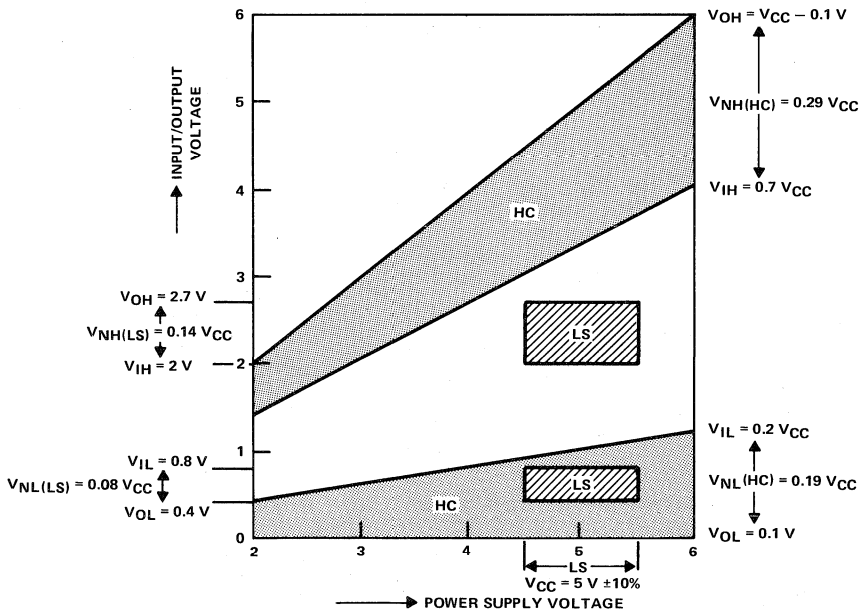

Figure 12. High-Speed CMOS and LS Noise Margins
5. Improved noise immunity over bipolar devices is due to the rail-to-rail ( $V_{CC}$  to ground) output voltage swings. Figure 12 illustrates the noise immunity provided by the high-speed CMOS family as it compares to the LSTTL family. This noise immunity makes it ideal for high-noise environments. Minimum and maximum output voltages are guaranteed at 4 mA (6 mA for high-current devices). If the output currents exceed these limits, the noise immunity will be impaired. 'HCT' devices have similar input noise margins to LSTTL because their inputs are TTL-voltage compatible. The outputs of 'HCT' are the same as standard 'HC' outputs.